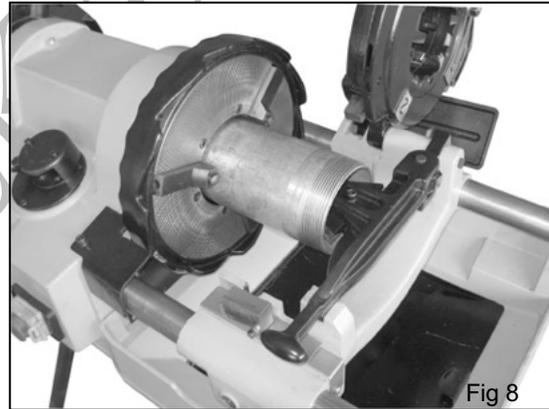

Fig 8
- 3. Switch on the machine. Advance reamer into pipe and complete reaming by exerting pressure on handwheel (Figure 8).